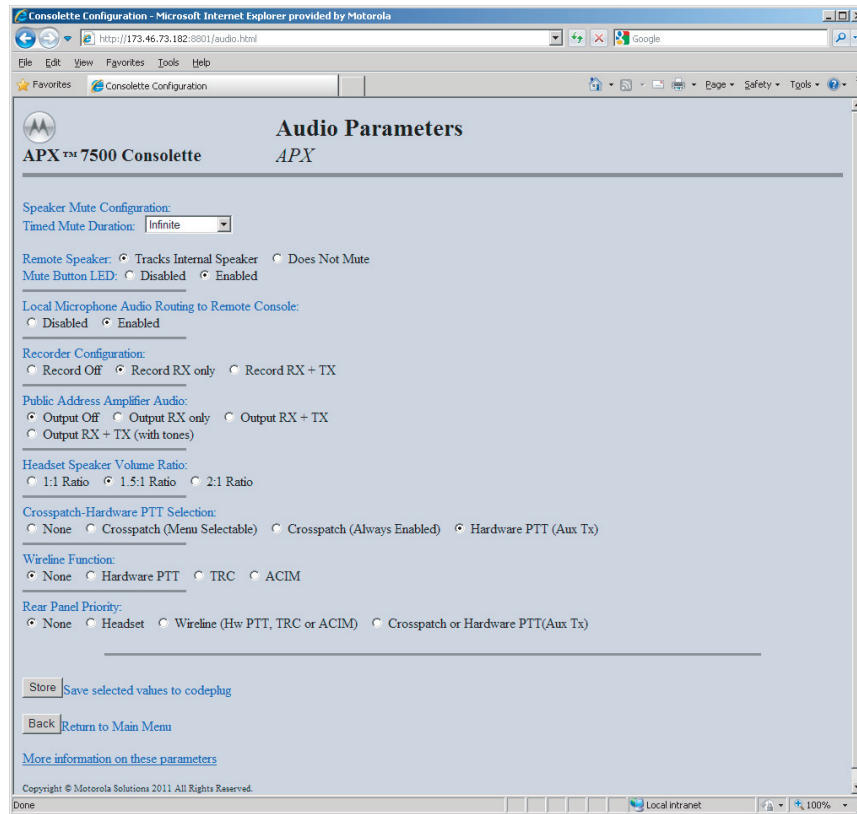
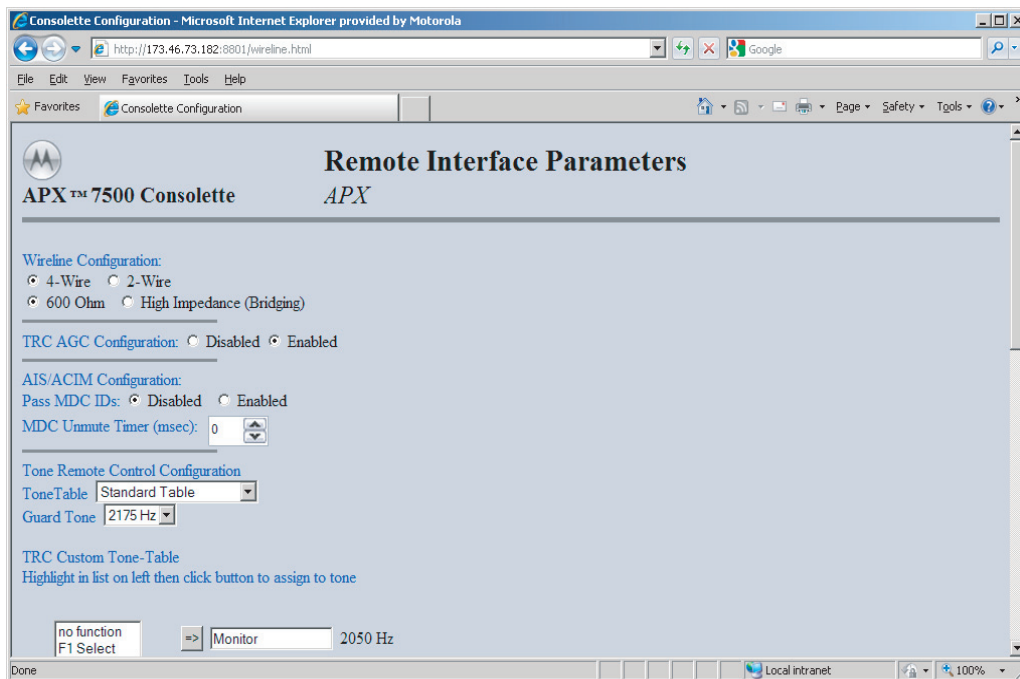
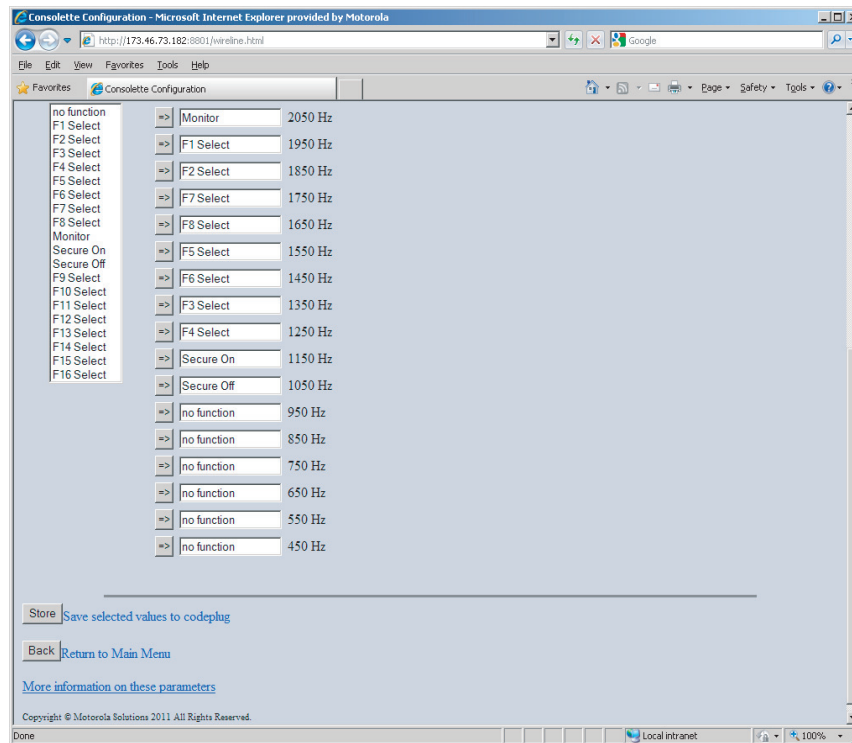
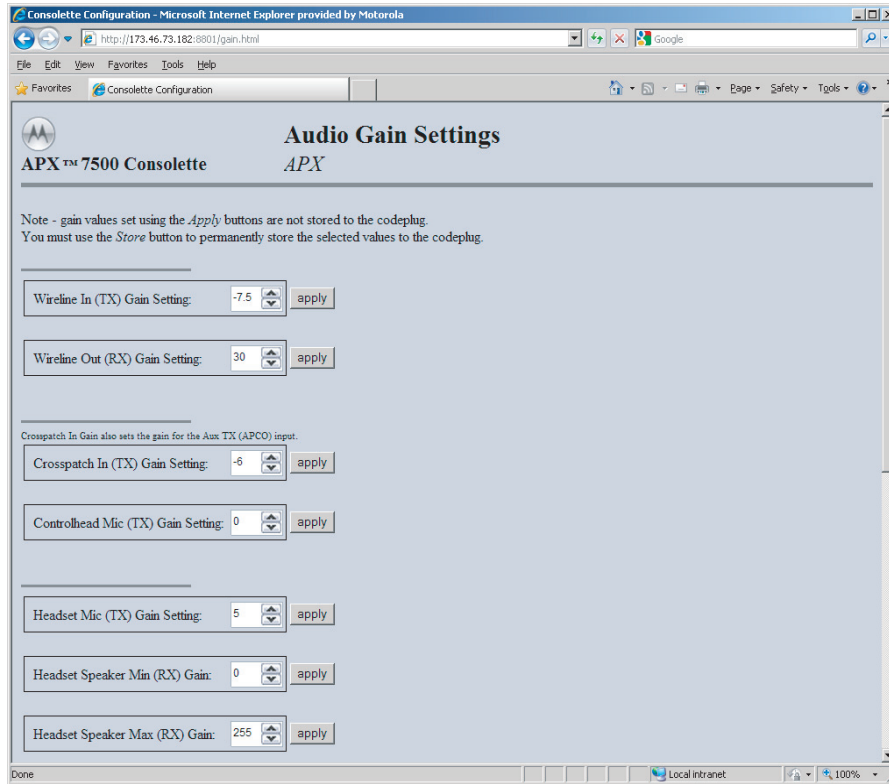

Figure 3-9. Audio Parameters Page
Figure 3-10. Top half of Remote Interface parameters page
Figure 3-11. Lower half of Remote Interface parameters page
Figure 3-13. Audio Gain Settings Page (Top Page)
To configure the Console for TRC operation, first enable TRC by selecting “TRC” under “Wireline Function” in the Audio Parameters Page (Figure 3-9). The user can also configure the unit for 2-wire or 4-wire operation, 600-ohm or High Impedance, and TRC AGC Configuration from the Remote Interface Parameters Page (Figure 3-10 and Figure 3-11). Additionally from this page, a predefined tone table can be selected or if necessary, a custom tone table can be created.
The Console ships from the factory with the Wireline Out (RX) and Wireline In (TX) Gain Settings adjusted for operation with the specific mobile shipped inside the station. Typically, the Wireline Out (RX) Gain Setting has a nominal value of 29 and the Wireline In (TX) Gain Setting has a nominal value of -13.5 dB, although the values could vary slightly from unit to unit. These gains are user adjustable from the Audio Gain Settings Page (Figure 3-13). Refer to section 3.7.3.3.3 and section 3.7.3.3.4 for information regarding Wireline transmit and receive tuning using the hardware PTT signal.
The Console can be remotely controlled from a Console supporting the RS232-based ACIM port. Refer to section 4.12.3 for more details on this operation. In the Audio Parameters Page (Figure 3-9), first enable the ACIM interface on the Console by selecting "ACIM" under the "Wireline Function" section. The user can also configure the unit for 2-wire or 4-wire operation and 600-ohm or High Impedance from the Remote Interface Parameters Page (Figure 3-10 and Figure 3-11).
The Console supports a PTT input (PTT*) on its rear panel. The associated audio path for this PTT input is defaulted to the single ended audio signal (AUX_TX) located on the DB25 connector on the Console rear panel. To instead use the balanced wireline audio path with this PTT input, select "Hardware PTT" for the "Wireline Function" in the Audio Parameters Page (Figure 3-9) and set the "TRC AGC Configuration" to "Disabled" in the Remote Interface Parameters Page (Figure 3-10 and Figure 3-11). The user can also set up the wireline for 2-wire or 4-wire operation, and 600-ohm or High Impedance operation from this page.
The Console ships from the factory with the "Crosspatch In (TX) Gain Setting" at a nominal -6 dBm. This gain is user adjustable from the Gain Adjustments Page (Figure 3-13).
To adjust the transmit tuning of the AUX_TX path on the Console, first make sure that the "Crosspatch-Hardware PTT Selection" located in the Audio Parameters Page (Figure 3-9) is set to "Hardware PTT (Aux Tx)". Next, generate a 1 kHz signal at 300mVrms from a 600 Ohm source into AUX_TX while asserting the PTT* signal. Measure the deviation of the received RF signal. Adjust the "Crosspatch In (TX) Gain Setting" field to increase or decrease the corresponding gain, then hit "apply" to see the result. Continue to adjust as necessary by selecting the up arrow or the down arrow and selecting the "apply" button. Once you have obtained the final setting, then hit "Store" at the bottom of the page to commit the new gains to the Console codeplug.
The Console ships from the factory with the "RX Codec Adjustment" set at a nominal 4 dBm. This gain is user adjustable from the Gain Adjustments Page (Figure 3-13).
The Consolette ships from the factory with the “Wireline In (TX) Gain Setting” at a nominal -13.5 dBm. This gain, which is user adjustable from the Gain Adjustments Page (Figure 3-13), is used by the Consolette when the TRC AGC is disabled. To disable the TRC AGC, set the “TRC AGC Configuration” to “Disabled” in the Remote Interface Parameters Page (Figure and Figure 3-11).
To adjust the transmit tuning of the Wireline path on the Consolette when AGC is disabled, first make sure that the “Wireline Function” located in the Audio Parameters Page (Figure 3-9) is set to “Hardware PTT”. Next, generate a 1 kHz signal at 0dBm from a 600 Ohm source to LINE2+ and LINE2-. Note: 0dBm across 600 ohms is 775mVrms. Assert the PTT* signal and measure the deviation of the received RF signal. Adjust the “Wireline In (TX) Gain Setting” field to increase or decrease the corresponding gain, then hit “apply” to see the result. Continue to adjust as necessary by selecting the up arrow or the down arrow and selecting the “apply” button. Once you have obtained the final setting, then hit “Store” at the bottom of the page to commit the new gains to the Consolette codeplug.
The Consolette ships from the factory with the “Wireline Out (RX) Gain Setting” at a nominal value of 29. This gain is user adjustable from the Gain Adjustments Page (Figure 3-13)
On the Audio Parameters Page (Figure 3-9) there is the “Headset Speaker Volume Ratio” field. This field provides 3 different volume ratios to the front panel speaker volume. This provides a way to avoid needing to constantly adjust the Consolette volume knob when switching between the use of headsets and the front panel speaker. Selections are:
The Consolette supports a minimum and maximum setting for the rear panel headset speaker volumes. The Consolette ships from the factory with the “Headset Speaker Min (RX) Gain” Setting at a value of 0 and the “Headset Speaker Max (RX) Gain” Setting at a value of 255. These values are user adjustable from the Gain Adjustments Page (Figure 3-13).
The Consolette ships from the factory with the “Headset Mic (TX) Gain Setting” at a nominal 5 dBm. This gain is user adjustable from the Gain Adjustments Page (Figure 3-13).
From the Audio Parameters Page (Figure 3-9), the field “Crosspatch-Hardware PTT Selection” can be used to configure either the Crosspatch interface or the rear panel Hardware PTT (APCO PTT) interface. These features cannot be enabled simultaneously.
The Consolette ships from the factory with the "Crosspatch In (TX) Gain Setting" at a nominal -6 dBm. This gain is user adjustable from the Gain Adjustments Page (Figure 3-13).
To adjust the transmit tuning of the Crosspatch path on the Consolette, first make sure that the "Crosspatch-Hardware PTT Selection" located in the Audio Parameters Page (Figure 3-9) is set to "Crosspatch (Always Enabled)". Next, generate a 1 kHz signal at 300 mVrms from a 600 Ohm source into CP_AUX_TX and key the unit using the CP_PTT* signal. Measure the deviation of the received RF signal. Adjust the "Crosspatch In (TX) Gain Setting" field to increase or decrease the corresponding gain, then hit "apply" to see the result. Continue to adjust as necessary by selecting the up arrow or the down arrow and selecting the "apply" button. Once you have obtained the final setting, then hit "Store" at the bottom of the page to commit the new gains to the Consolette codeplug.
From the Audio Parameters Page (Figure 3-9), the user can enable the output to an external recorder as well as select the audio content.